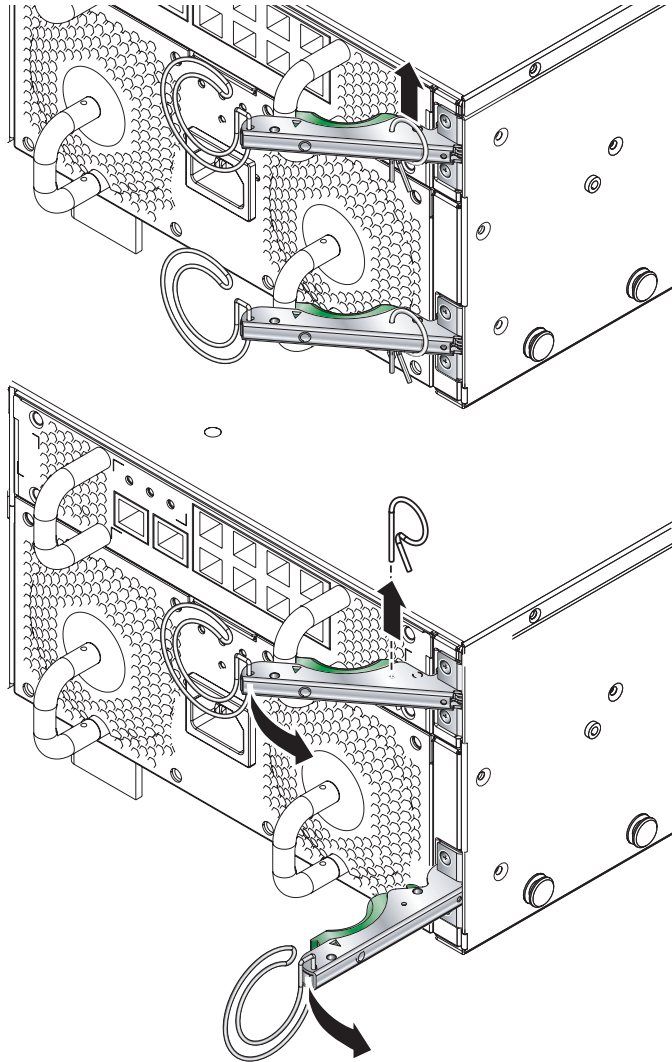

FIGURE 3-5 Removing the Module Retaining Pins
2. Remove the module retaining pins (FIGURE 3-5).